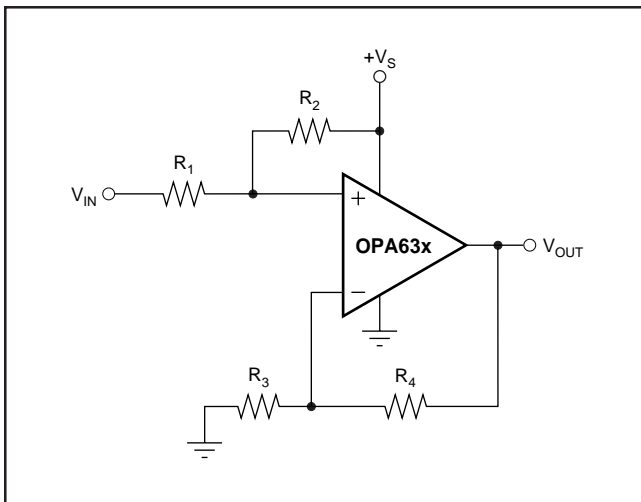

FIGURE 3. DC Level-Shifting Circuit.
Figure 3 shows a DC-coupled non-inverting amplifier that level-shifts the input up to accommodate the desired output voltage range. Given the desired signal gain (G), and the amount V_{OUT} needs to be shifted up (ΔV_{OUT}) when V_{IN} is at the center of its range, the following equations give the resistor values that produce the best DC offset.